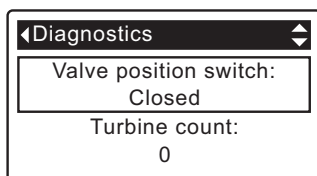

FIG. 98
2. Press the DOWN (▼) button to scroll through the list until **Valve position switch** is displayed (See Figure 98).